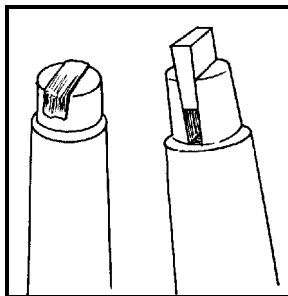

Figure 6. Cloth and Wooden Wedge Used to Tighten Joint
2. Glue one or two strips of cloth over the tenon. (See Figure 6, Cloth and Wooden Wedge Used to Tighten Joint.)
3. Saw a slot in the end of the dowel. Wedge a small piece of wood into a slot used to spread dowel apart slightly. (See Figure 6.) The end of the wooden clothespin or a piece of flat molding makes a good wedge. Trim off any excess.